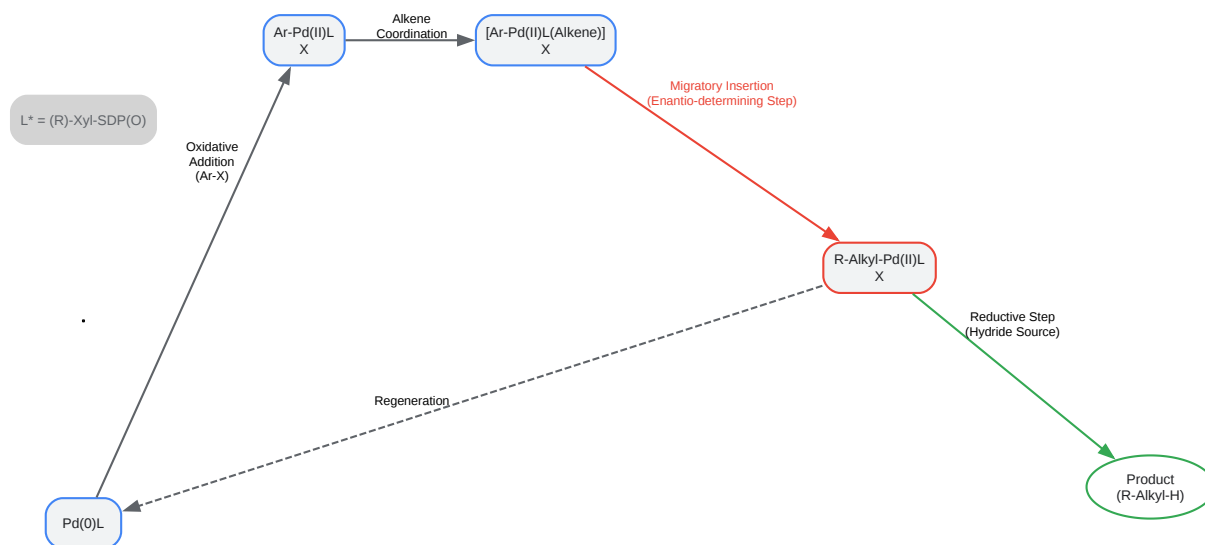

Figure 1: Proposed Catalytic Cycle for Pd/(R)-Xyl-SDP(O) Hydroarylation
Caption: Figure 1: Proposed Catalytic Cycle for Pd/(R)-Xyl-SDP(O) Hydroarylation